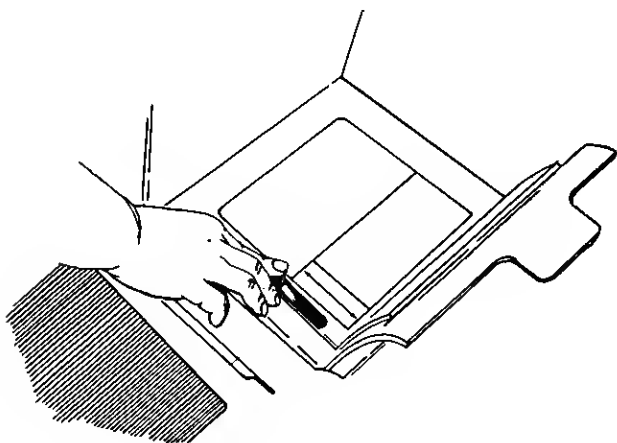

FIGURE 5.
1. To engage the dump valve (making the tractor free-wheeling), push the lever as shown forward and hold in this position. See figure 5.